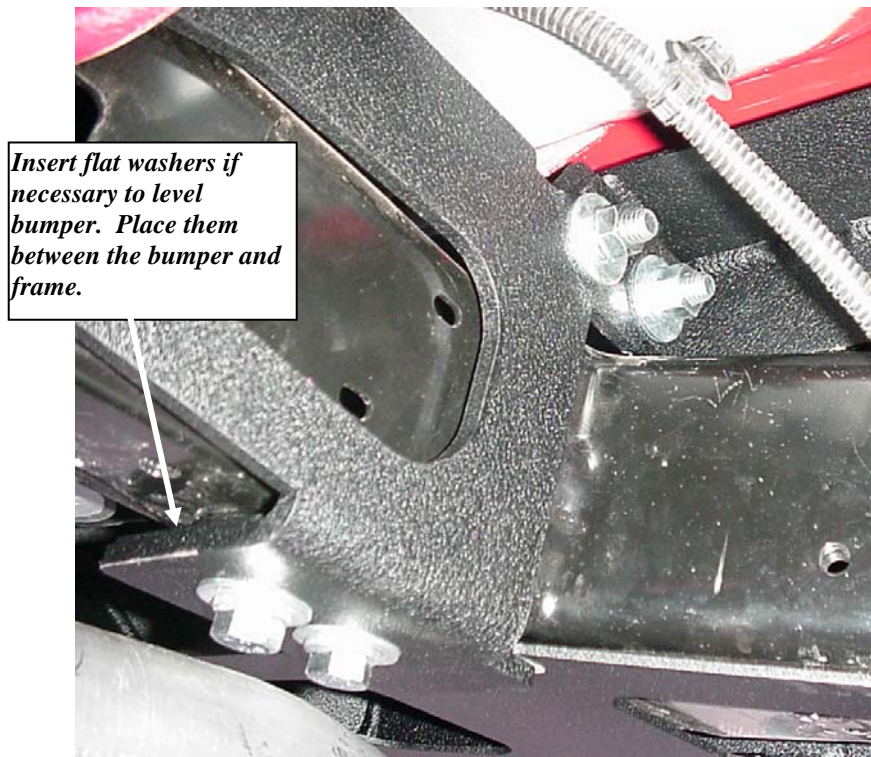

Figure 16 Frame Bracket installed, RH shown
15. Install 2ea 7/16 x 1 1/2" bolts through the bumper flange into each bumper bracket. Install flat washers, lock washers and nuts on each. Do not tighten yet. **See Figure 16**
16. Install the 12mm bolts with 7/16" flat washers and 1/2" lock washers through the Frame Brackets, Bumper and into the threaded holes in the bottom of the vehicle frame. Do not tighten yet. **See Figure 16**
17. Adjust the Bumper for best fit and tighten the 12mm bolts into the frame, then the 7/16" bolts through the bumper flanges and finally the long bolts through the frame. Extra flat washers are included to be used as leveling shims. Insert as needed between the bumper and the bottom of the frame. **See Figure 16**